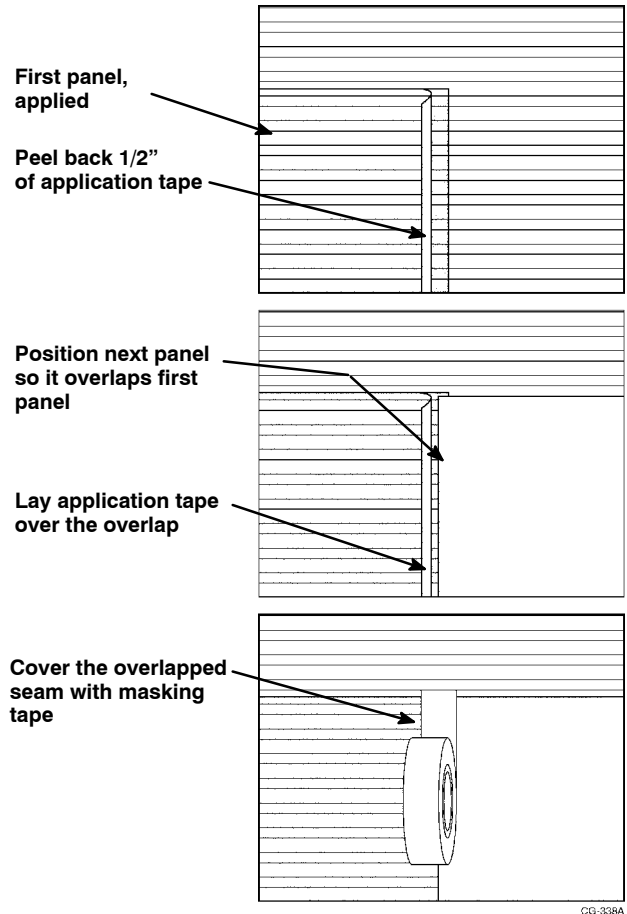

Figure 24. Applying Multi-Panel Graphics
3. Apply multi-panel graphics. Refer to Figure 24.